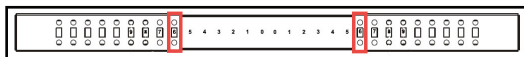

Figure 2
- Slide the **Corner Sections** (x 2), inward along the **Center Sections** (x1), and align the **Setting Numbers** on the **Center Sections** with the first **Rectangular Cutout** on the **Corner Sections** (x 2). (Figure 2)